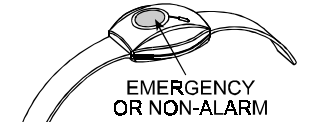

Figure 24. MCT-211
**F. MCT-211** (see Fig. 24) This is a waterproof, wrist-worn PowerCode transmitter, that can be enrolled to perform emergency or non-alarm function.